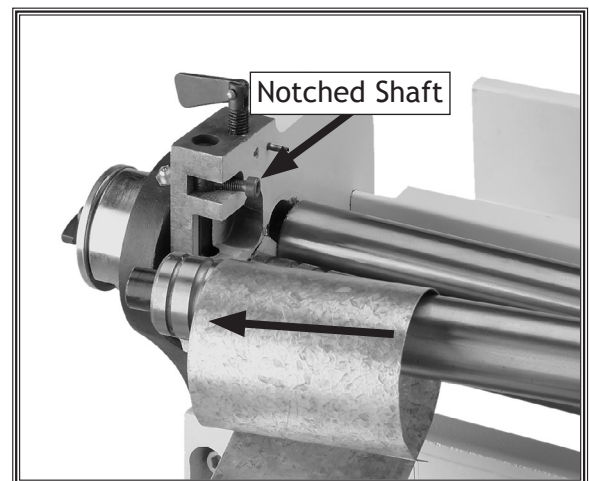

Figure 14. Removing the workpiece.
7. Turn the notched shaft and slip the upper roll cylinder out to remove the workpiece (see **Figure 14**).